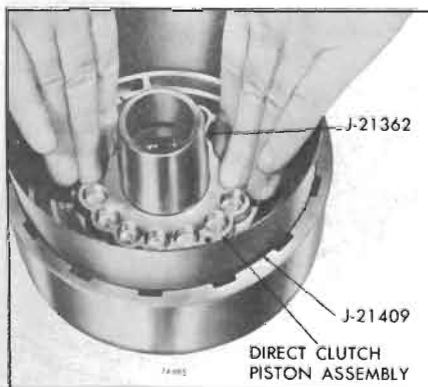

Figure 74-685
4. Place Seal Protectors, Tools J-21362 - Inner, J-21409 - Outer, over hub and clutch housing and install clutch piston. See Figure 74-685.